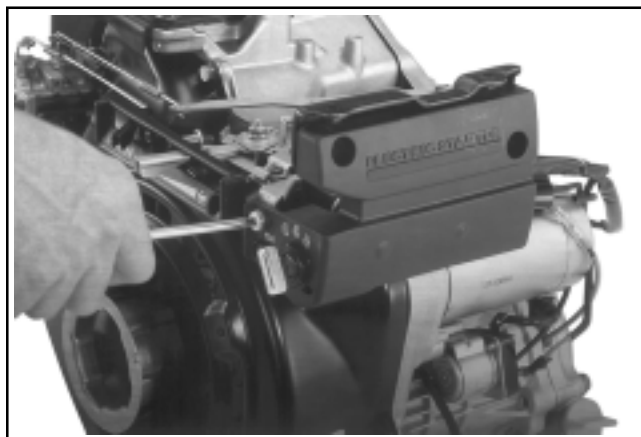

Figure 11-99. CS8.5 (spec. 92xxxx), CS10, CS12. Attaching Electrical Starter Cover Panel.
3. Attach the electric starter cover panel (if so equipped) to the right tank support with the three phillips head screws and one flange nut. See Figure 11-99.